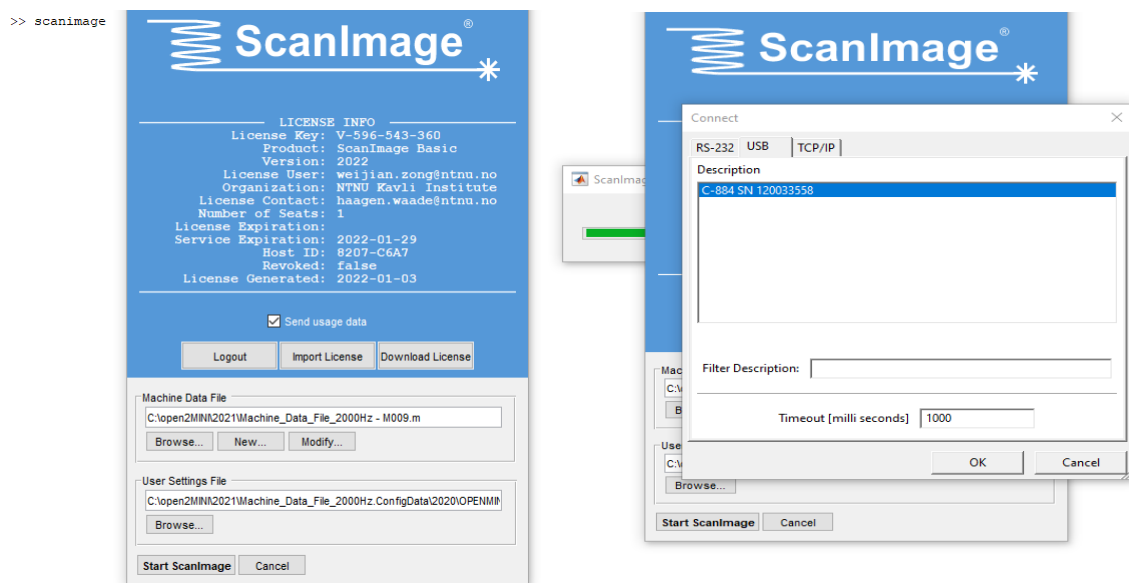

Figure 1: ScanImage starting dialogue windows with MATLAB command window on the background.
Then, also select a Machine Data File (MDF) and User Configuration file. Each file is provided in Github: MINI2P toolbox/Software/SI settings. Click "Start ScanImage" (See Fig.1-top).
Step15. Wait for SI to load. In the meantime, minimize or move MATLAB/SI window to be able to visualize a display that enable the DC motors connector. Click on the USB tab, select C-884 +SerialNumber > Click OK (See Fig.1-bottom).